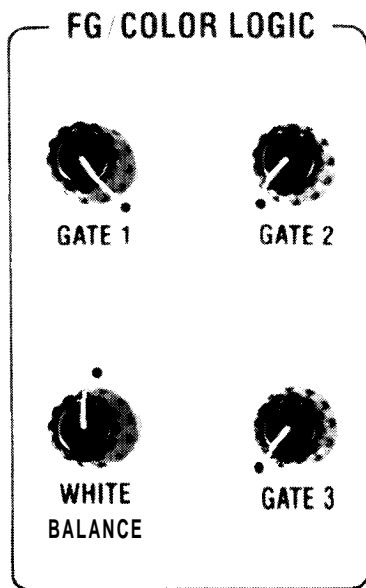

Figure 4-6. Foreground/Color Logic Control Group
**4-29. FG/COLOR LOGIC.** (See figure 4-6.)